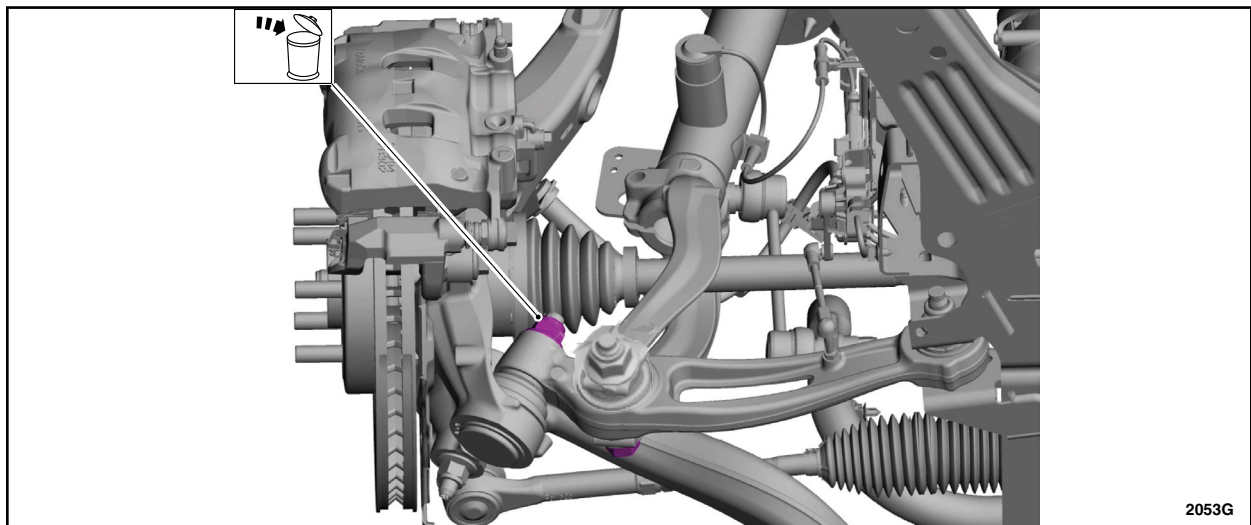

**FIGURE 5**
9. Separate the front lower arm from the wheel Knuckle. See Figure 5.